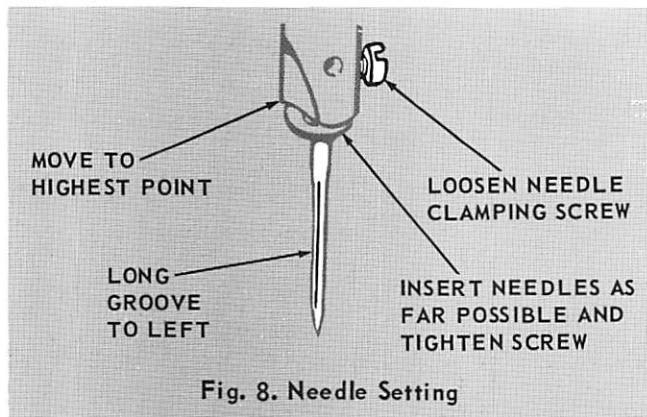

Fig. 8. Needle Setting
1. Turn machine pulley over toward you until needle bar is at highest position as shown in Fig. 8.